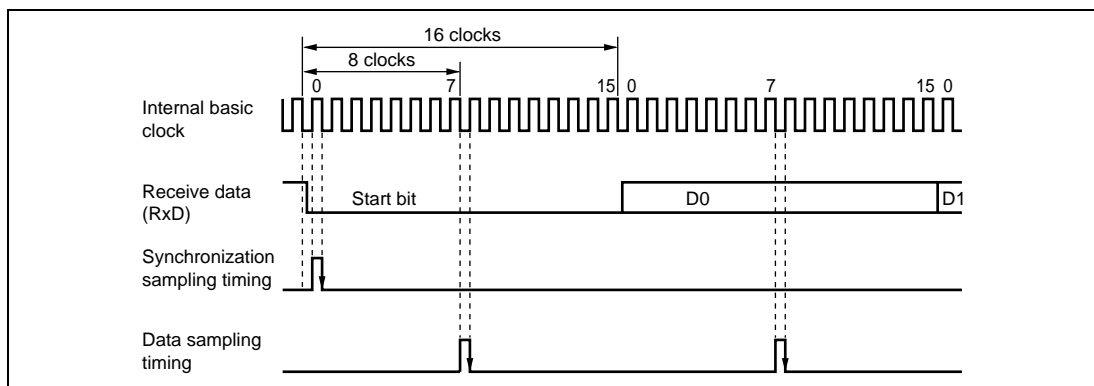

Figure 13.6 Receive Data Sampling Timing in Asynchronous Mode
In asynchronous mode, the SCI operates on a basic clock with a frequency of 16 times the transfer rate. In reception, the SCI samples the falling edge of the start bit using the basic clock, and performs internal synchronization. Receive data is latched internally at the rising edge of the 8th pulse of the basic clock as shown in figure 13.6. Thus, the reception margin in asynchronous mode is given by formula (1) below.